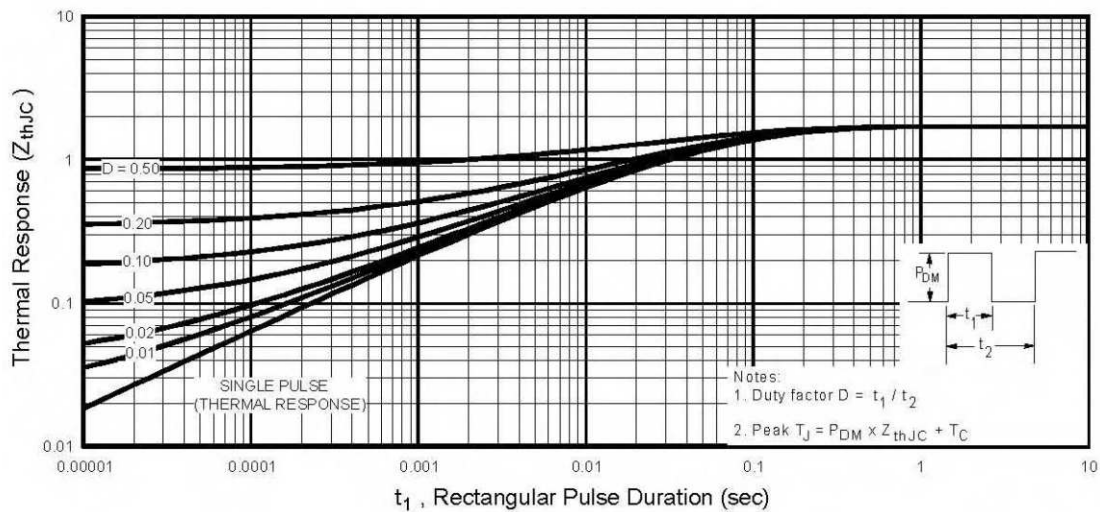

Fig 11. Maximum Effective Transient Thermal Impedance, Junction-to-Case
① Repetitive rating; pulse width limited by max. junction temperature. (See fig. 11)
② $I_{SD} \leq 9.0A, di/dt \leq 120A/\mu s, V_{DD} \leq V_{(BR)DSS}, T_J \leq 150^\circ\text{C}$
③ $t = 60s, f = 60Hz$